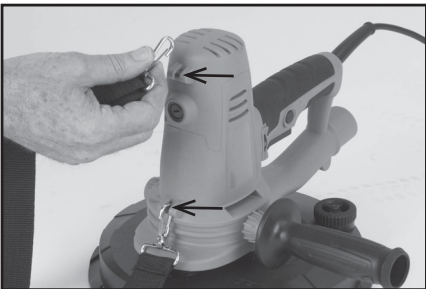

Fig. 2
- Attach the Carry Strap to the main body of the machine (if required) by clipping it to the dedicated attachment pins. **(Fig. 2)**